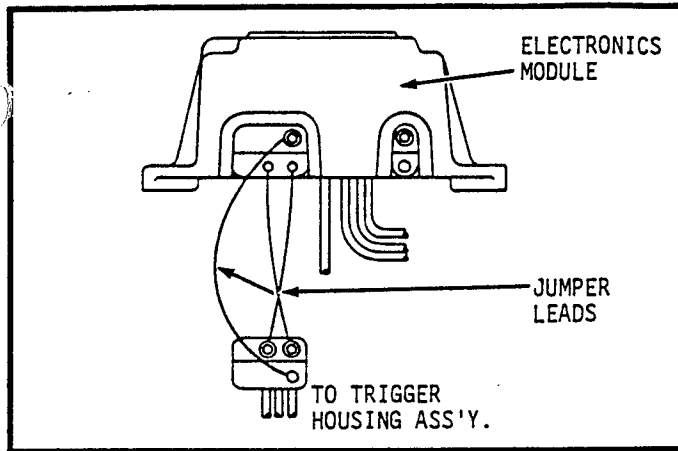

FIGURE 3-8 -- ELECTRONICS MODULE TEST
- B. **Timing Ring and Electronics Module Test** - Make three short jumper leads terminated with one male and one female bullet type connector to mate with the terminals in the three lead plug-in connector at the electronics module. (Could use jumper leads with small alligator clips.) Unplug the three lead plug-in terminal from the electronics module. Connect the three jumper leads as shown in Fig. 3-8. (Make sure of good electrical connections.) Turn the ignition switch on and pull starter. If the nonfiring coil now produces a spark, the problem lies in the timing ring and it must be replaced. If the nonfiring coil still does not produce a spark, the problem lies in the electronics module and it must be replaced.